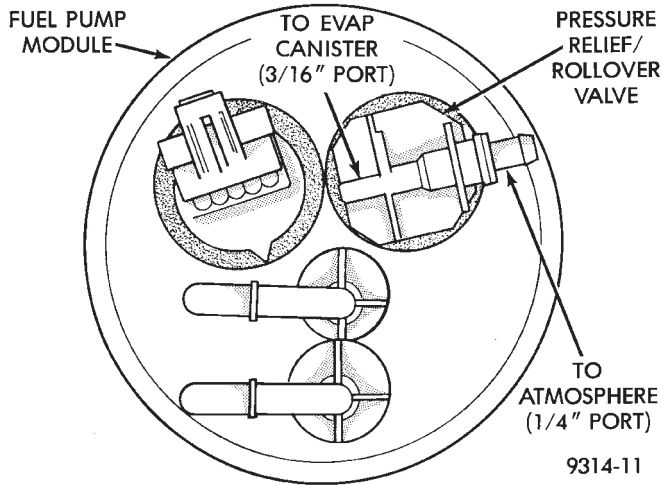

Fig. 17 Pressure Relief/Rollover Valve
The fuel pump module houses the pressure relief/rollover valve (Fig. 17). The dual function valve relieves fuel tank pressure and prevents fuel flow through the fuel tank vent hoses in the event of vehicle rollover. All vehicles pass a full 360° rollover without fuel leakage.
- (1) Install the rubber grommet in the fuel pump module.
- (2) Lubricate the grommet with a light coating of **Power Steering Fluid**. Push the valve downward into the grommet. Twist valve until the ports are properly positioned (Fig. 17).
- (3) Install fuel pump module. Refer to Fuel Pump Module Installation in this section.